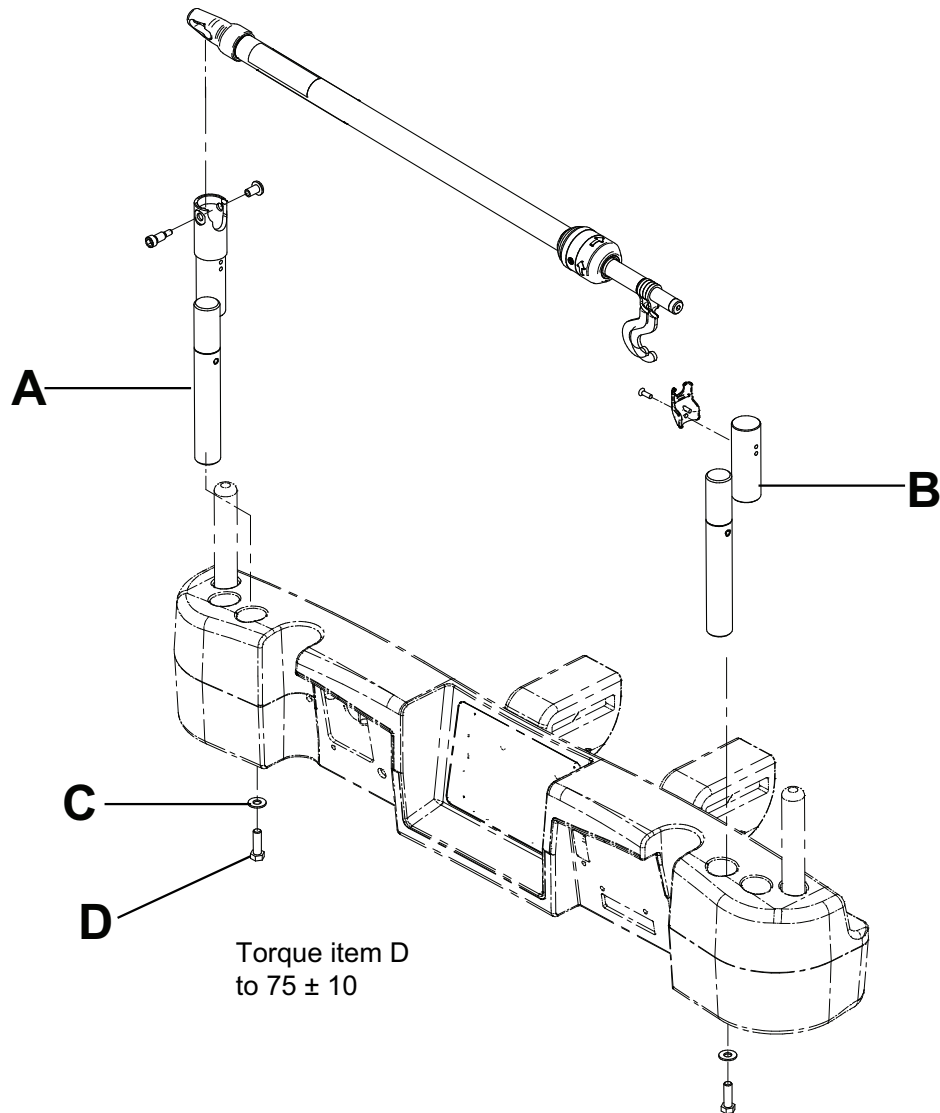

Figure 103 – Single Havasu two stage IV pole (Left side shown)
1. Using a 3/8 in. drive ratchet and a 1/2 in. socket, install one washer (C) and one bolt (D) to secure the IV pole into the socket at the head end of the product (A) (Figure 103).
2. Using a 3/8 in. drive ratchet and a 1/2 in. socket, install one washer (C) and one bolt (D) to secure the IV pole support into the socket at the head end of the product (B) (Figure 103).